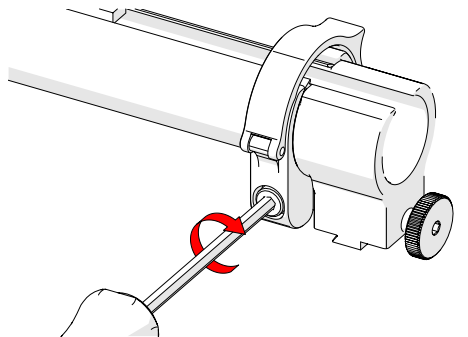

Fig. 39 - Tighten clamp screw
4. Tighten the clamp screw (*Fig. 39*).